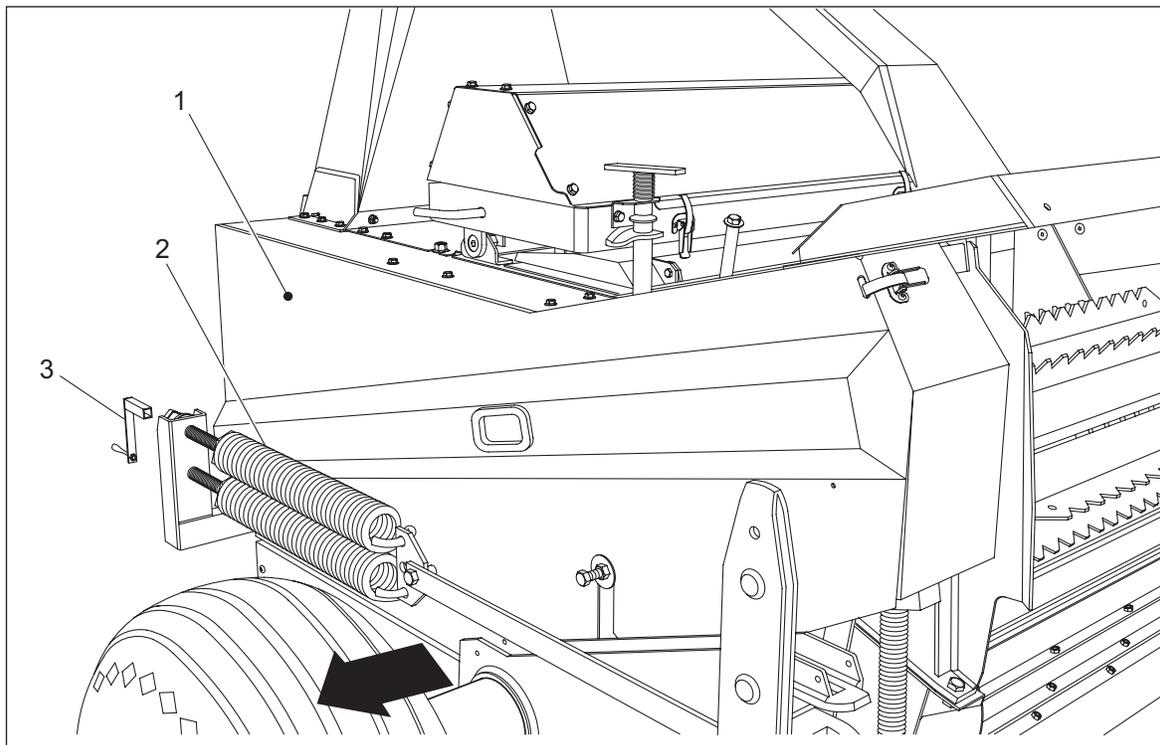

Figure 70
ÉTAPE 1 - FIGURE 70
ÉTAPE 2 - FIGURE 70